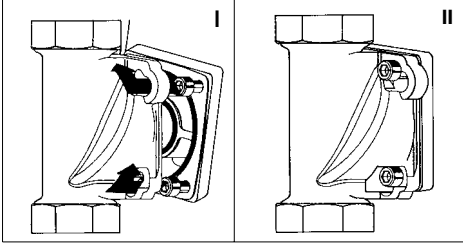

Fig. 2: Built-in rotary flange with bayonet fixture
- Insert the four flange screws in the bayonet drill holes on the built-in rotary flange (see fig. 2 I).
- Turn the filter in a clockwise direction as far as it will go (see fig. 2 II).